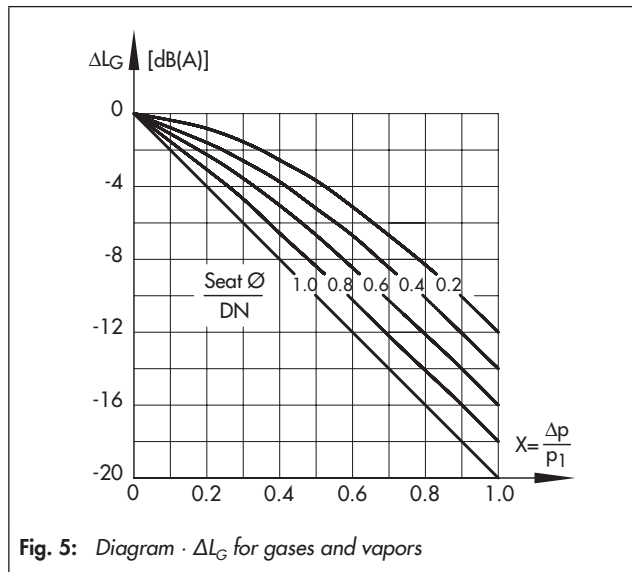

Fig. 5: Diagram · ΔL_G for gases and vapors
– ΔL_G · For gases and vapors: values according to Fig. 5